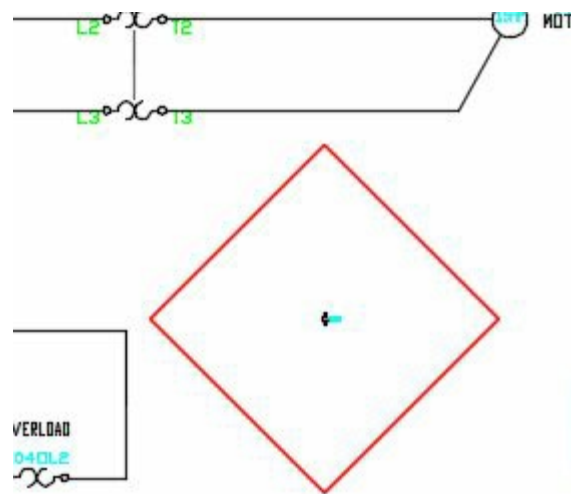

Figure-14. Component not having catalog data attached
- Click on the **Show** button to highlighted the components not having catalog data attached; refer to Figure-14.